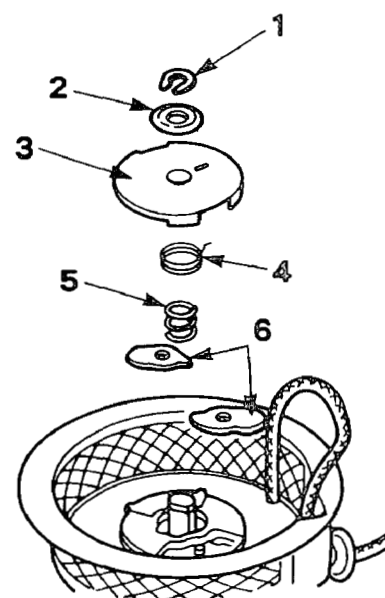
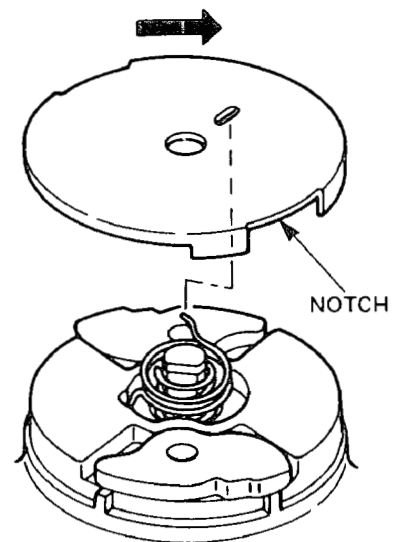

FIG. 80
FIG. 85
- (3) When removing, take out the parts in the order of the numbering in Fig. 80.
- (4) When reassembling the parts, follow up in the reverse order to Fig. 80. When putting the friction plate in the hole for it, set the return spring a little upward as shown in Fig. 85 so that the friction plate can easily be put in the hole for it.